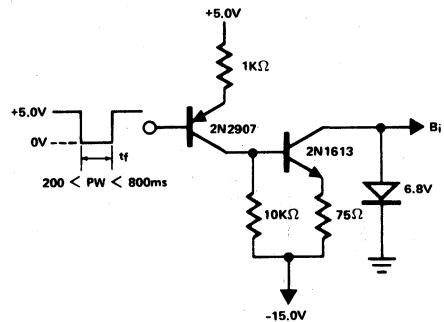

FIGURE 2
- Connect the device as shown in Figure 1, using the fusing generator of Figure 1 or the alternate circuit of Figure 2. The circuit shown in Figure 2 can be used in more automated programming systems. This circuit